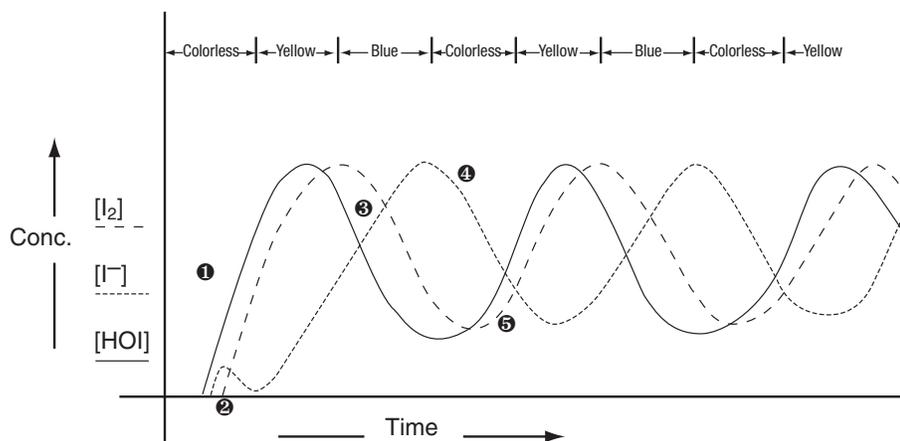

Figure 1.
When the reactants are mixed, IO_3^- reacts with H_2O_2 to produce a little HIO_2 . Once HIO_2 , iodosic acid, appears, the radical mechanism, 1a, begins. Steps i, ii, and v are fast, resulting in rapid production of hydroiodous acid, HOI. Since reaction 1a is faster than reaction 2 and $[\text{I}^-]$ is low, $[\text{HOI}]$ builds up. ❶ HOI can now trigger the production of I^- and I_2 (see Figure 1).